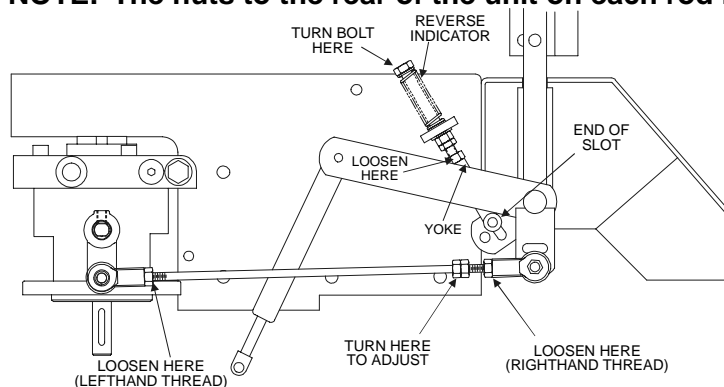

FIGURE 15
- c) Begin with either the left or right motion control lever. Move lever to the neutral position and pull lever back until the clevis pin (on arm below pivot shaft) contacts the end of the slot (just beginning to put pressure on spring), See Figure 15.
- e) Loosen lock nuts from the ball joints at each end of the RH pump control linkage (See Figure 15).
- h) Bring the RH motion control lever into the neutral position. Adjust RH pump control rod length by rotating the double nuts on the rod in the appropriate direction until the wheels slightly creep in reverse (See Figure 15). Move the motion control lever to the reverse position and while applying slight pressure to the lever, allow the reverse indicator spring to bring the levers back to neutral. The wheel must stop turning or slightly creep in reverse.